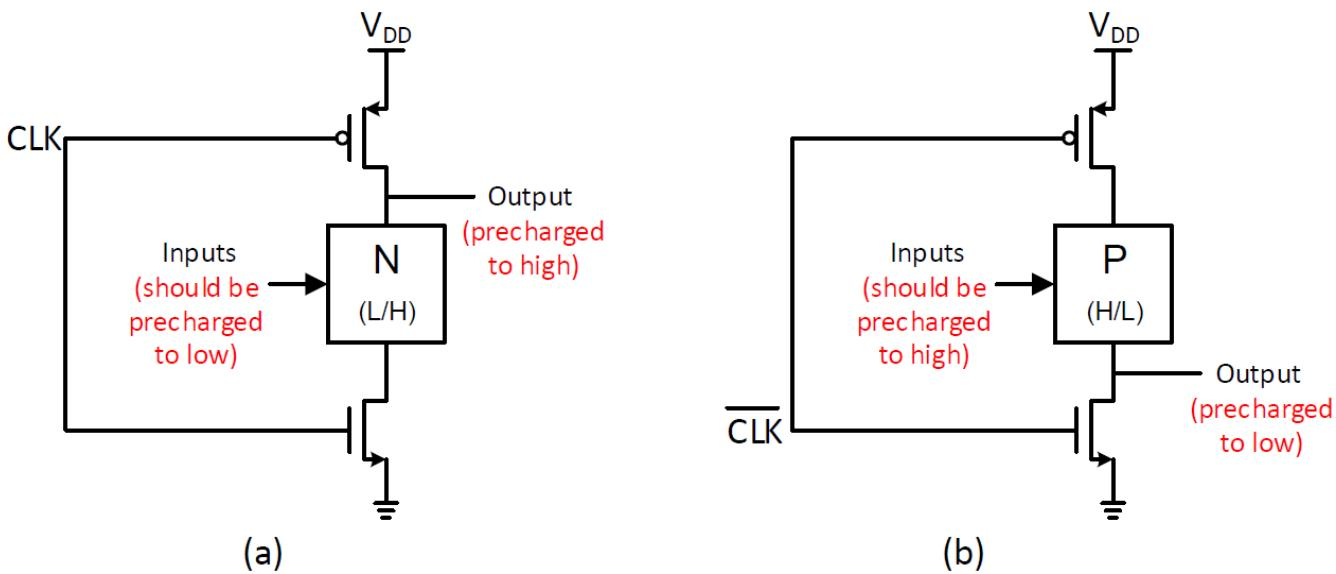
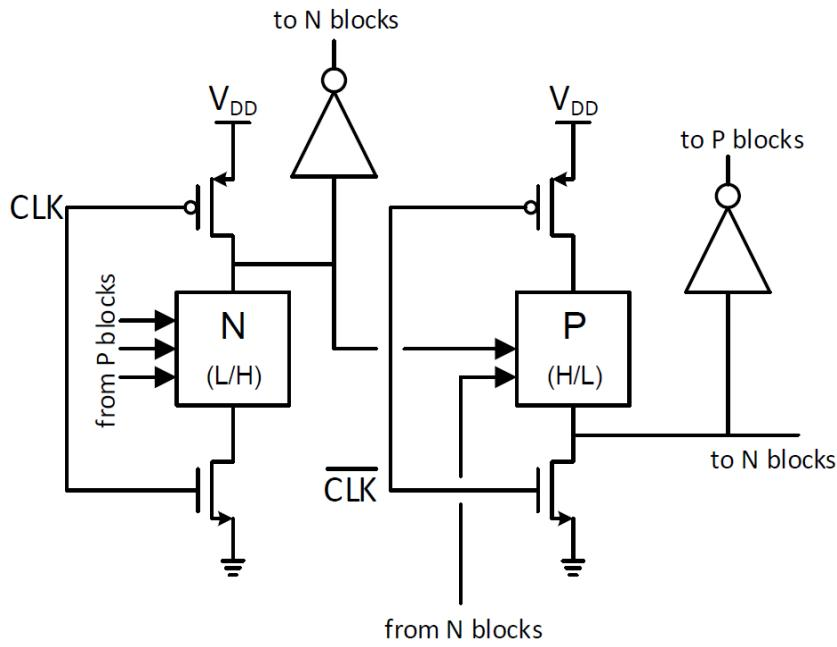

Figure 18: (a) N-type dynamic logic gate, (b) P-type dynamic logic gate
Figure 19: NP Domino Logic (footed)
For an N-type dynamic logic gate, all of the inputs should be precharged to zero before the evaluation phase starts. Naturally, the output node is precharged to one (Figure 18-a). Due to this fact, N-type gates are often referred as **input precharged low, output precharged high (L/H)** gates. Therefore, it is impossible to drive an N-type dynamic gate by another N-type dynamic gate because of these incompatibility issues at the level of precharging at the inputs and the outputs.
For a P-type dynamic logic gate on the other hand, all of its inputs should be precharged to one and the output is precharged to zero. A P-type dynamic logic gate can be seen on Figure 18-b. Analogous to the N-type gates, the P-type gates are often referred as **input precharged high, output precharged low (H/L)** gates. It is also impossible to drive a P-type dynamic gate by another P-type dynamic gate. Nevertheless, N-type gates can drive P-type gates and vice versa. Thus, instead of placing an inverter at the output of a dynamic gate as in Domino Logic, the logic can be constructed by placing N-type and P-type gates consecutively as in Figure 19. This type of dynamic implementation is called **NP Domino Logic** or **NORA (NO RAce) Logic** (There is also a third name which is **Zipper Logic** with a slight difference).
You can see the nMOS footing device at the bottom of the circuit on Figure 18-a and the pMOS footing device at the top of the circuit on Figure 18-b. The main purpose of the footing devices during the precharge phase can be defined in the following:
- For an nMOS device (Figure 18-a, bottom) to switch off the pull down path (evaluation path)
- For a pMOS device (Figure 18-b, top) to switch off the pull up path (evaluation path)